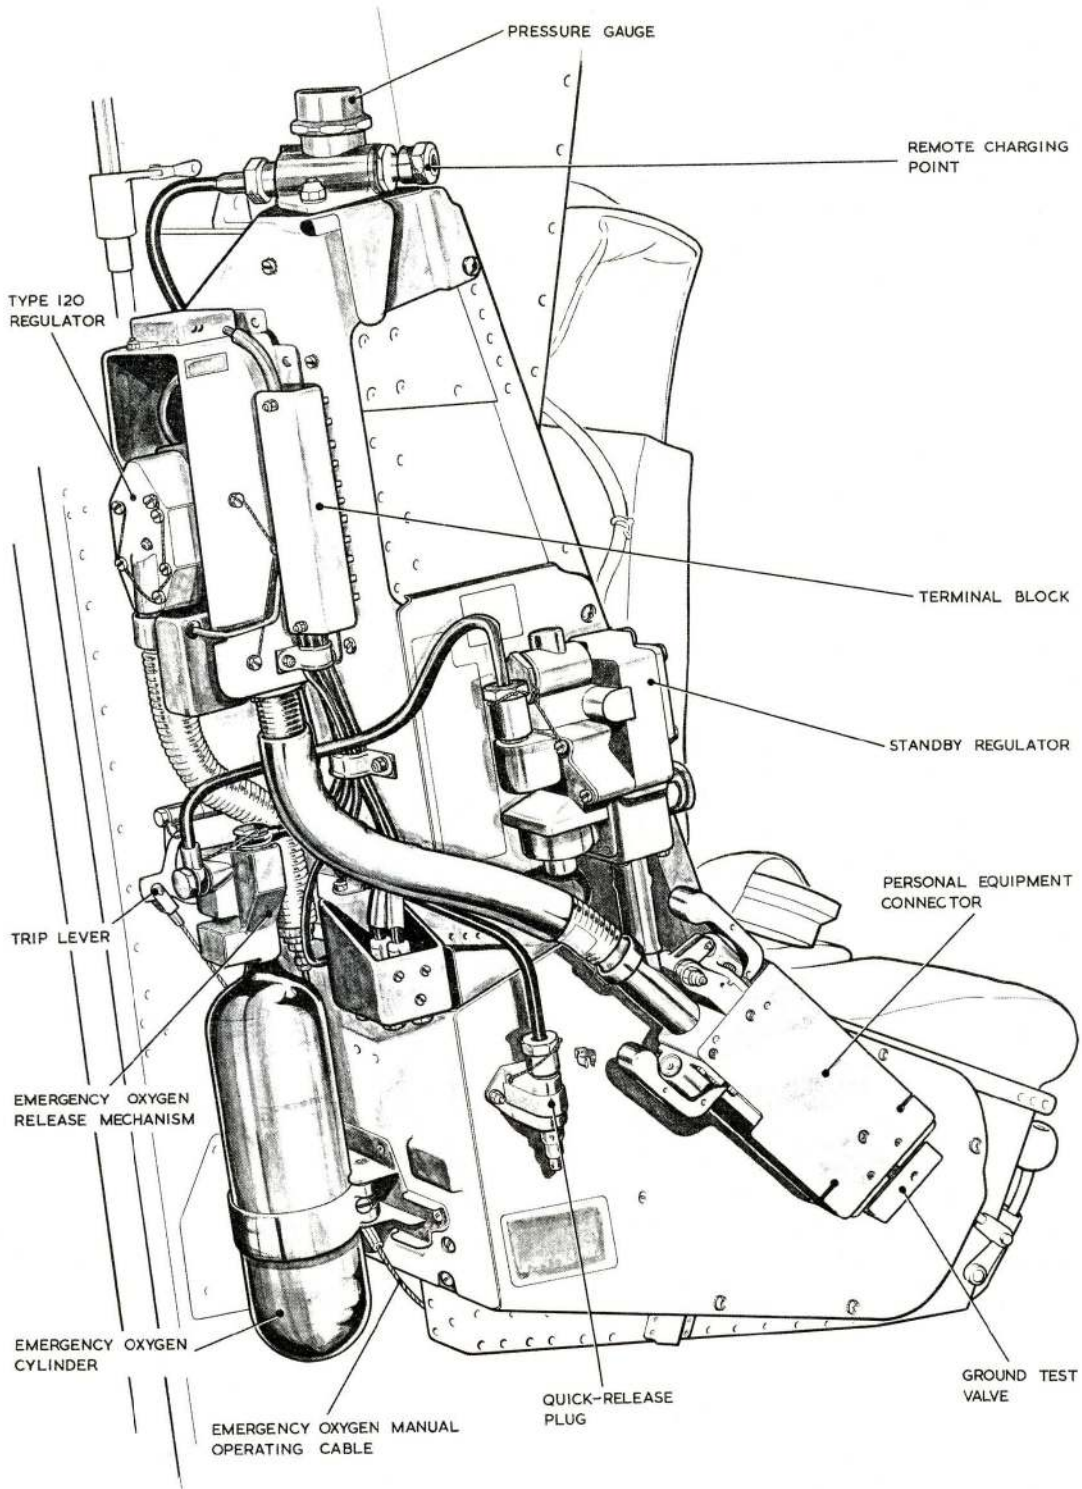

Fig. 1 Seat mounted oxygen group assembly
16. The following procedure is to be adopted when installing the equipment in the seat; refer to fig. 1 to 6 for details as necessary
- (1) The seat mounted oxygen group assembly (*fig. 1*) must be fitted before the seat and ejection gun assembly are installed in the aircraft. Detailed instructions for fitting the oxygen group assembly are contained in A.P.4288D, Vol. 1.
- (2) Remove and retain the safety pin from the emergency oxygen cylinder operating head.
- (3) Ensure that the leg restraint cords are clear of the seat and that the seat pan is clean.
- (4) Place the parachute pack on its support bracket temporarily and ensure that the pack restraining straps and headrest cushion are immediately available.
- (5) Ensure that the harness straps are not twisted. Operate the harness "go-forward" lever, pull out the strap under the support bracket and pass it downwards through the D-shackle.
- (6) Lift the parachute pack forward (this may be done before pulling out the